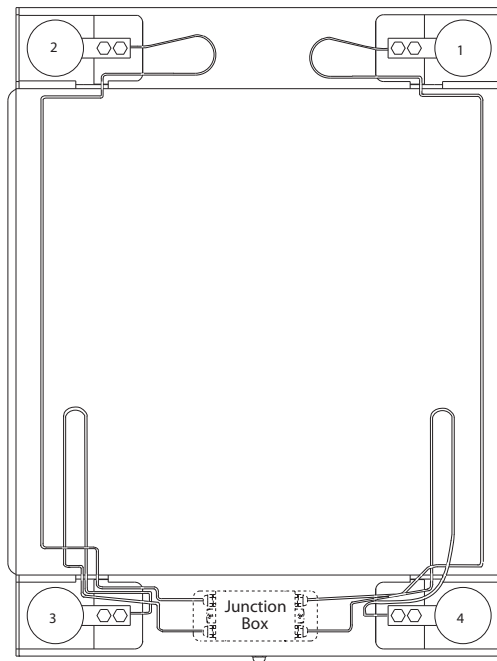
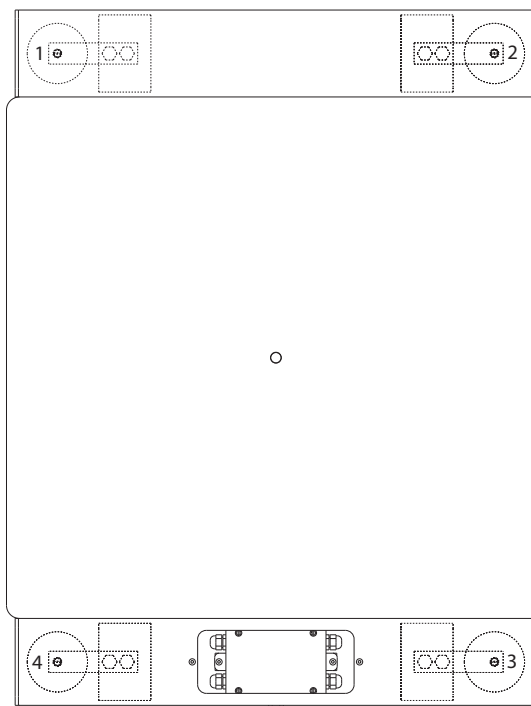

Figure 6-2. Bottom View of Scale
Figure 6-4. Corner Numbering - Top View of Scale
Remove the junction box cover and identify the correct load cell terminal corresponding to each corner (labeled CELL 1, CELL 2, and so on). See Figure 6-4 on page 13 for scale deck corner numbering.
2. Thread the cable from each load cell in the frame and into the junction box according to the wiring diagram in Figure 6-2.
Note that in Figure 6-2 both the scale and the junction box are viewed from the bottom. To verify correct load cell/junction box terminal matching, see the numbers on the terminals inside the junction box and the corner numbering diagram in Figure 6-4 13.
The four load cells are each wired to their respective terminals in the junction box according to the corner numbering system shown in Figure 6-4, and the coloring code in Table 6-2.